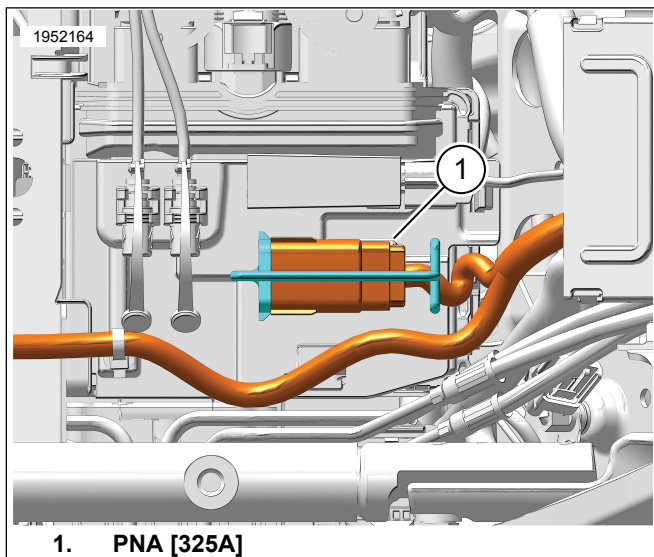

Figure 6. Vehicle's PNA Connector for Center-Cooled Vehicles
- a. See Figure 6. Locate 12-way P&A [325A] (1) under the seat and remove cap plug.